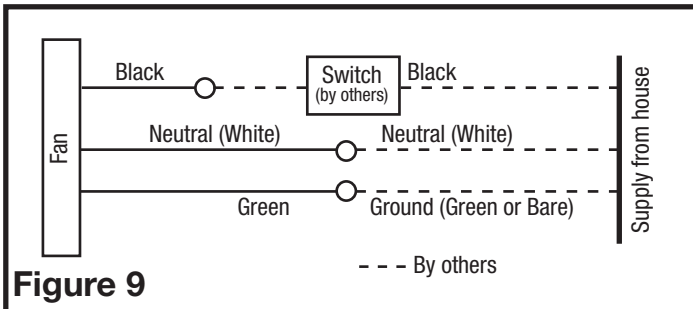

Figure 9
3. From where you have chosen to access the fan's junction box, connect the White wire from the house to the White wire from the fan's receptacle. Connect the Black wire from the wall switch to the Black wire from the fan's receptacle. Connect the ground wire from the house to the Green wire from the fan's receptacle (Figure 9). Use approved methods for all connections.